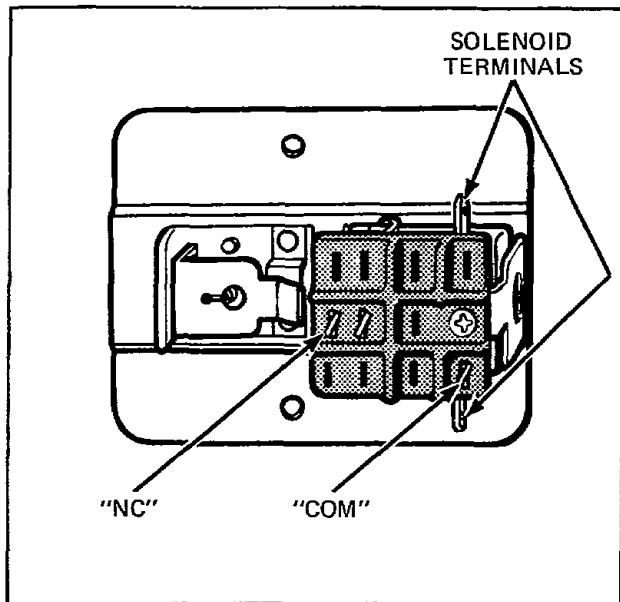
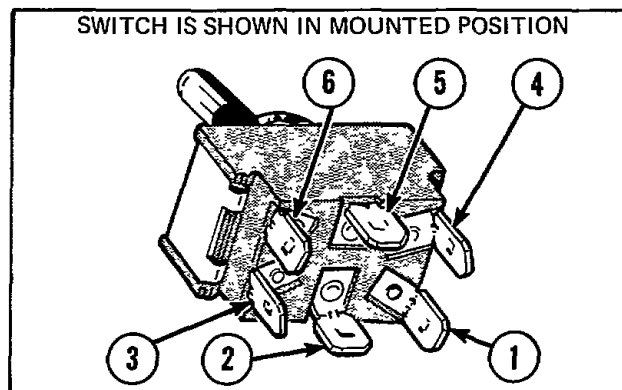

Figure 52
Figure 53
48. **START SWITCH** (Refer to Figure 52)
- b. Apply "live" test lamp probes to common (COM) and normally closed (NC) terminals. "Live" test lamp should not light.
50. **ACTION SWITCH** (Refer to Figure 53)